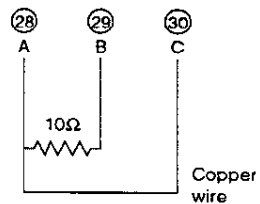

Figure 17-11
- ② If short-circuit occurs between RTD terminals ㉓ and ㉓: (Fig 17-11)
- (b) Connect as shown in Figure 17-11 then press  key after the display stabilizes.